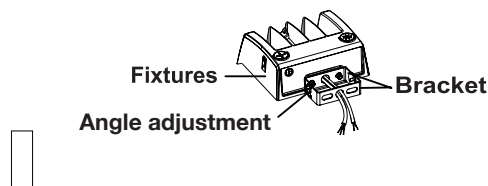

FIGURE 3.3
2. Finish the wire connection according to the right mode of connection (pay attention to load wire, neutral wire, and ground wire) (FIG 3.3)